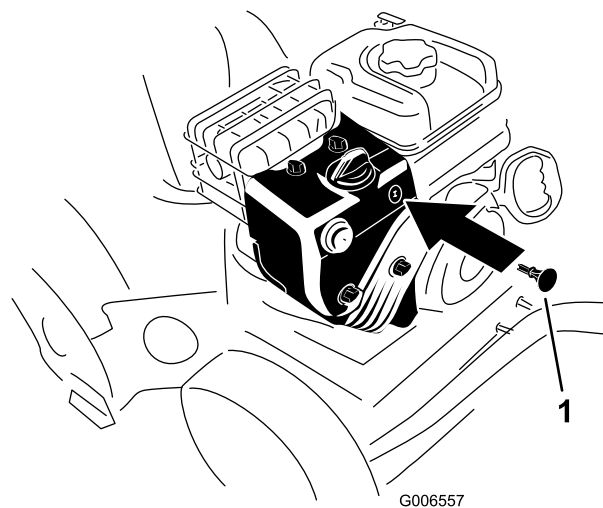

Figure 25
3. Insert the ignition key (Figure 25).